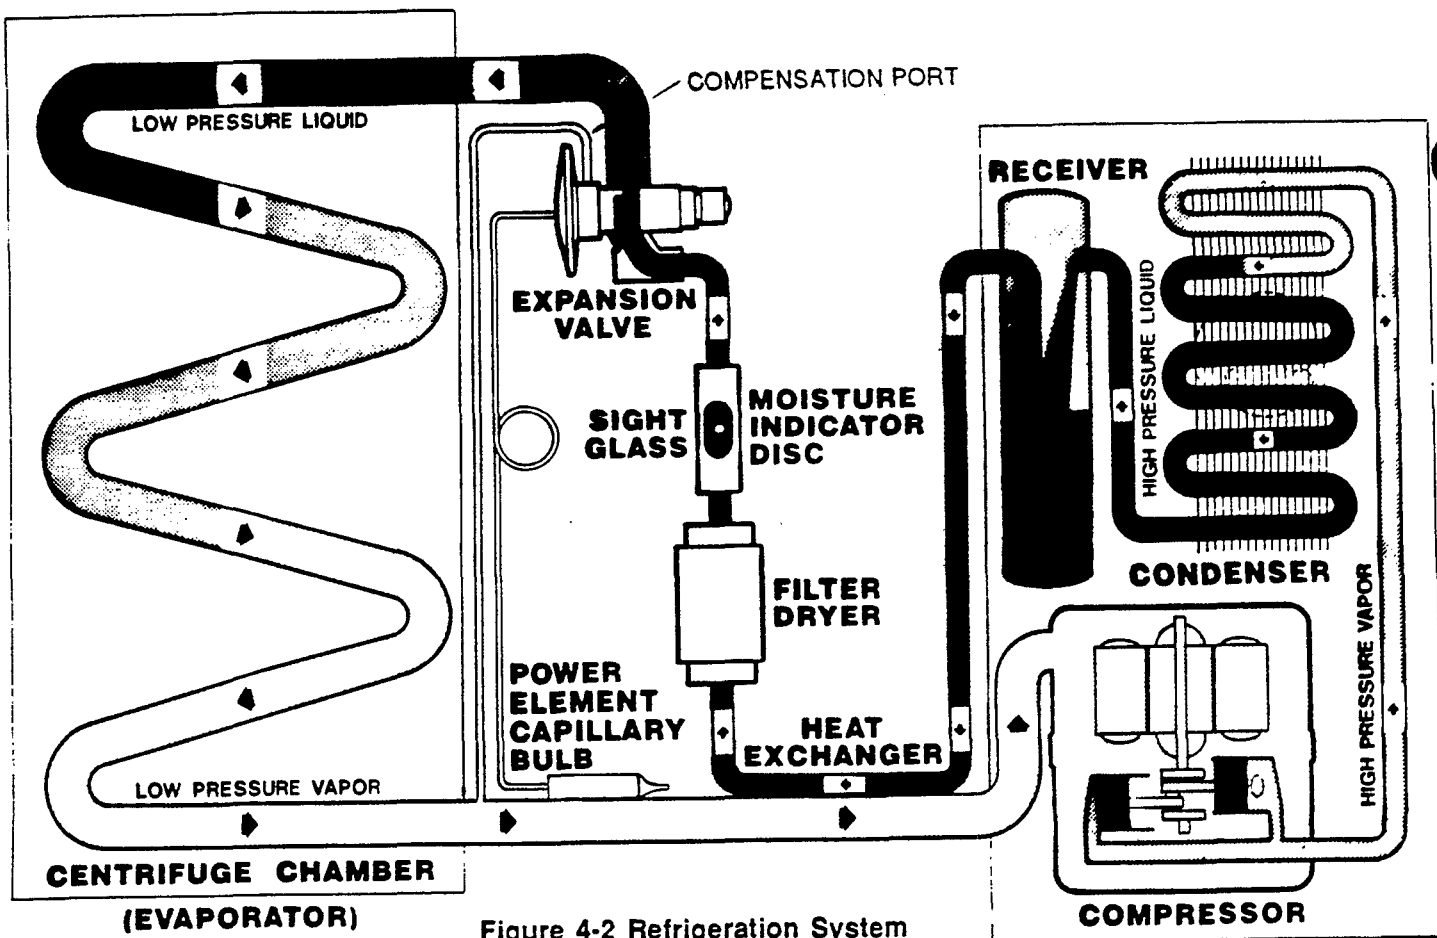

Figure 4-2 Refrigeration System
4. No motor operation	Refer to Figure 4-2 Motor trouble-shooting flow diagram.